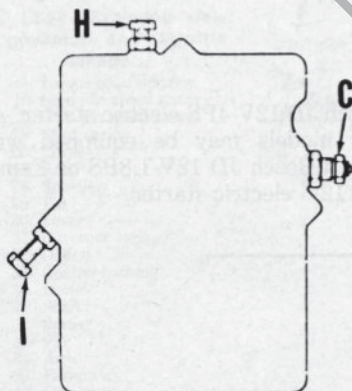

Fig. L4-2—Drawing showing location of low idle speed screw (I), high idle speed screw (H) and torque control screw (C).
Idle speed is adjusted by turning idle speed screw (I—Fig. L4-2). Idle speed should be 900-950 rpm. Maximum governed speed is adjusted by turning high speed screw (H). Maximum governed speed under load is 3000 rpm for Models 904 and 914 and 2200 rpm for Model L20.